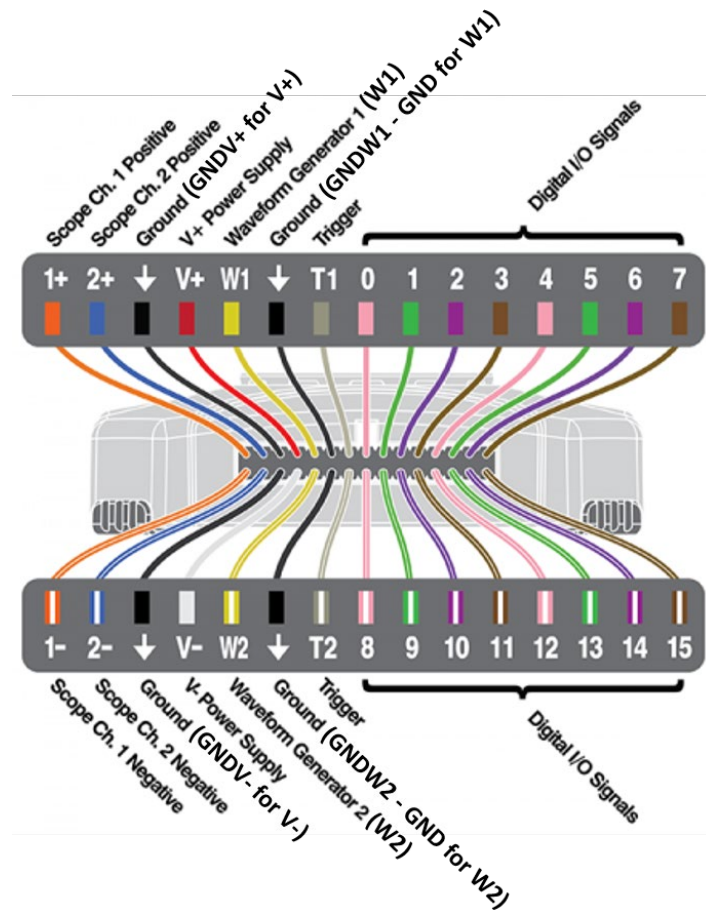

Fig. 3 Diagram for the port definition of an Analog Discovery 2 (or 3) (AD2/3)
- 1.8 Use the port definition diagram of AD2/3 shown in Fig. 3 when setting up your experiments.